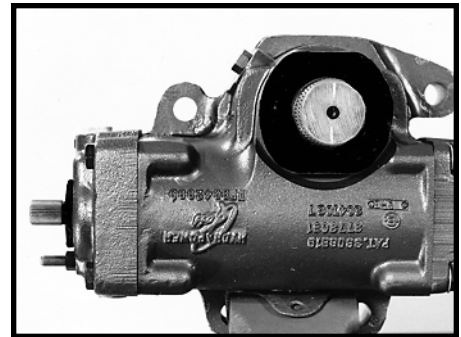

Figure 38
1. Position the steering gear firmly in a vise with the gear's worm shaft/input shaft (17) in a horizontal direction. Prepare for fluid drainage and unplug fluid line ports. Rotate worm shaft/input shaft with an 11/16 inch or 3/4 inch 12 point socket or box end wrench, through the gear travel several times to purge hydraulic fluid from the unit. Then position the timing mark located on the end of the sector shaft to a vertical direction. SEE FIGURE 38.